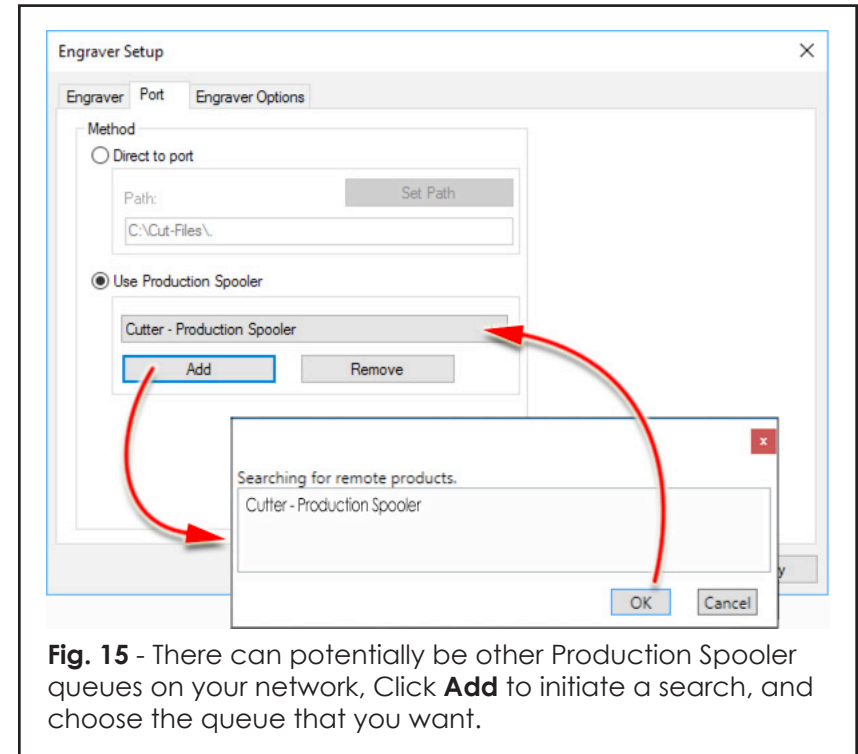

Fig. 15 - There can potentially be other Production Spooler queues on your network, Click **Add** to initiate a search, and choose the queue that you want.
- Click the **Port** tab (Fig. 15).
- Click the **Add** button (Fig. 15), and Vision 10 Software will locate your Production Spooler application.